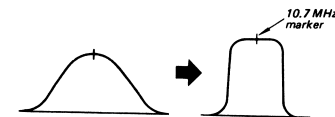

Fig. 3-5 Response curve
2. Turn the core of IFT F1, IFT F2 and IFT F3 to obtain the maximum amplitude response curve on the scope shown in Fig. 3-5.